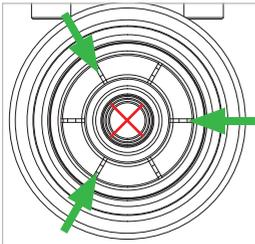

Figure 7
**Note:** Make sure that no cleaning agent gets into the gas channel (*Figure 7*).
- ▶ Spray once briefly using the small dispensing tube between every second clamping jaw (*Figure 7*).
**Attention:** The lubricant must not be allowed to enter the gas channel (*Figure 7*).